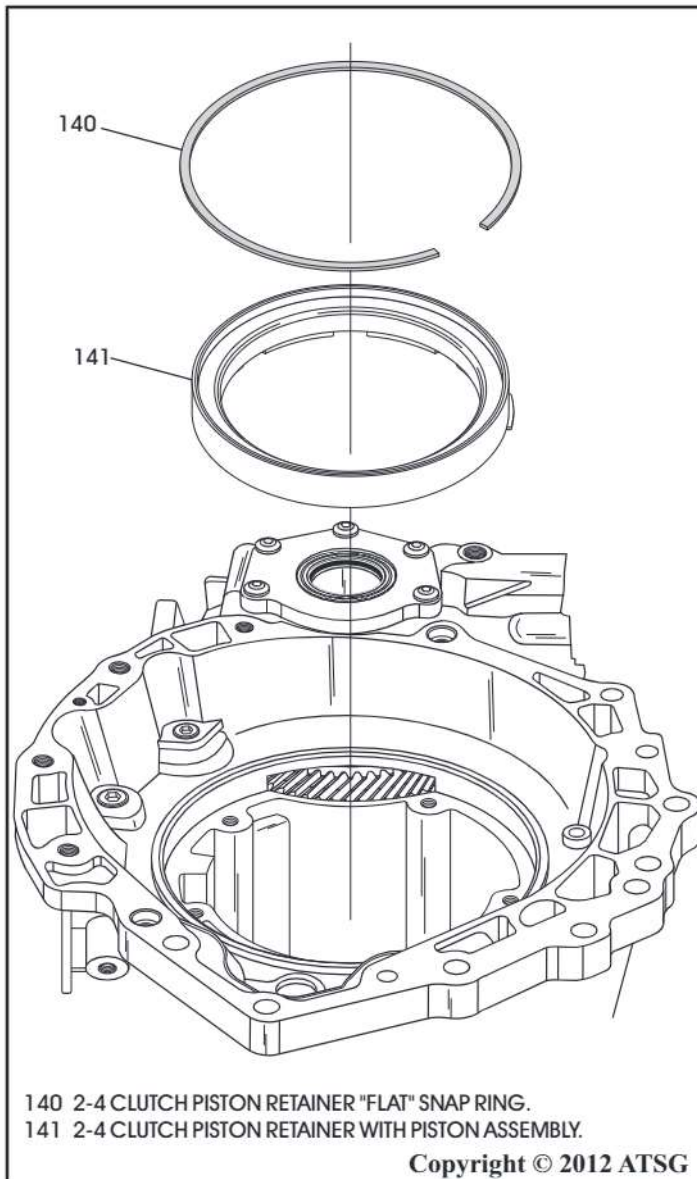

Figure 250
41. Install 2-4 clutch retainer with piston assembly, as shown in Figure 250.
42. Compress the retainer and install the 2-4 clutch retainer snap ring, as shown in Figure 250.